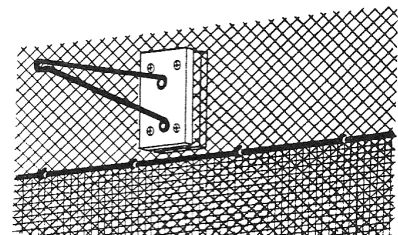

Figure 6.
- For a chain link or wire fence, it may be necessary to sandwich the fence fabric between two boards (Figure 6), and screw net banding to the board.